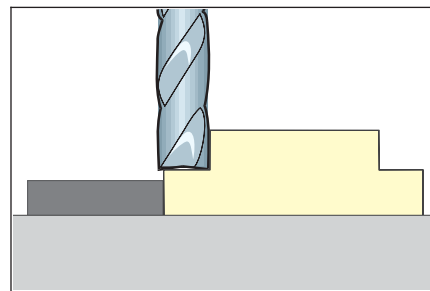

Figure 4 Mill a step onto the edge of the replacement base material.
5. Install an end mill into the chuck of a precision drill press. Machine a step onto the entire mating edge of the replacement base material. The dimensions of the step should match the size of the step in the printed circuit board milled groove. (See Figure 4.)